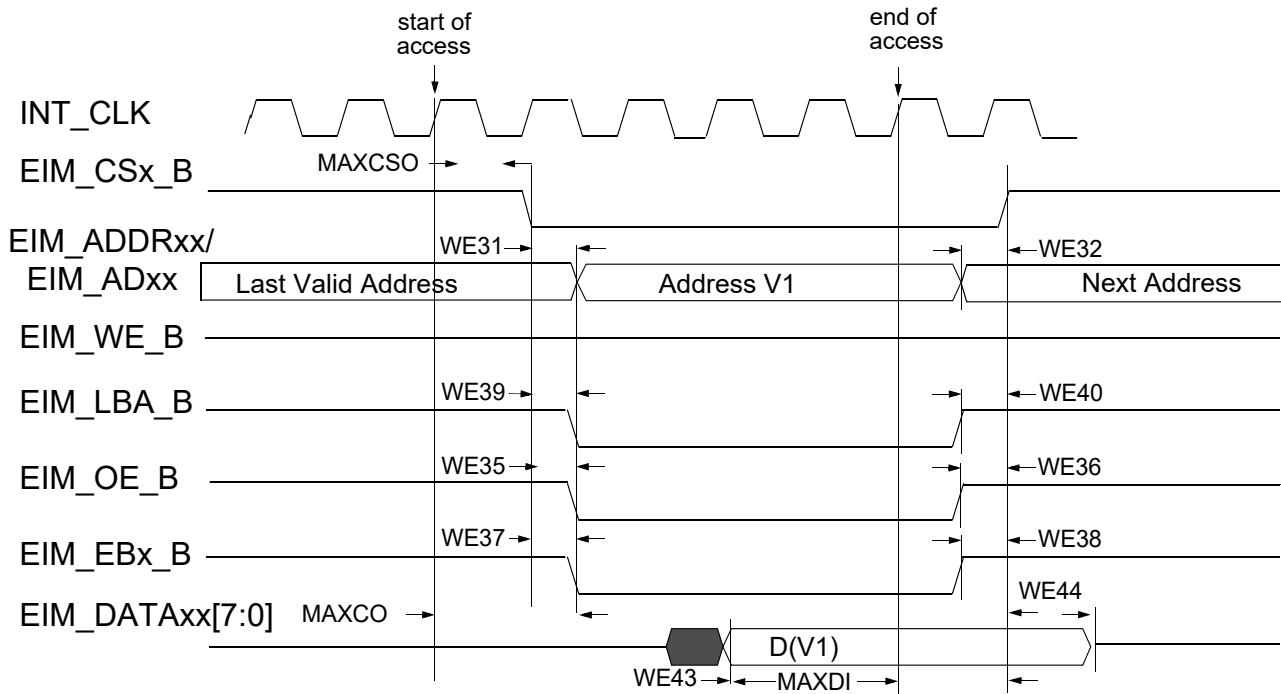

Figure 16. Asynchronous Memory Read Access (RWSC = 5)
Figure 16 through Figure 21, and Table 45 help you determine timing parameters relative to the chip select (CS) state for asynchronous and DTACK EIM accesses with corresponding EIM bit fields and the timing parameters mentioned above.
Asynchronous read and write access length in cycles may vary from what is shown in Figure 16 through Figure 19 as RWSC, OEN and CSN is configured differently. See the *ii.MX 6SoloX Applications Processor Reference Manual (IMX6SXR)* for the EIM programming model.